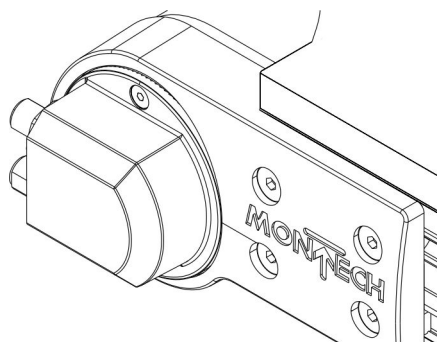

Fig. 30: Cable outlet 180°
2. ➤ Turn the cover cap of the cable outlet until the desired cable outlet position of 180° (Fig. 30) is set.